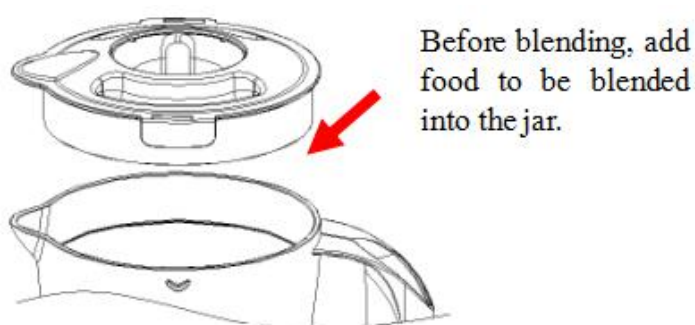

Fig.6
2. Place the food to be blended into the jar (See Fig.6) . Usually, certain amount of purified water has to be added to facilitate the smooth running of appliance. The proportion of the food and water is 2:3.The amount of mixture should not exceed the max level as indicated on the jar.